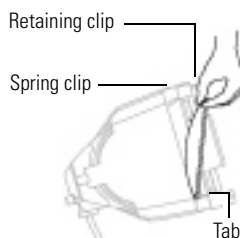

Figure 4
4. Hold the lens by the edge, and position it so the convex side faces the back of the fixture (**Figure 4**).